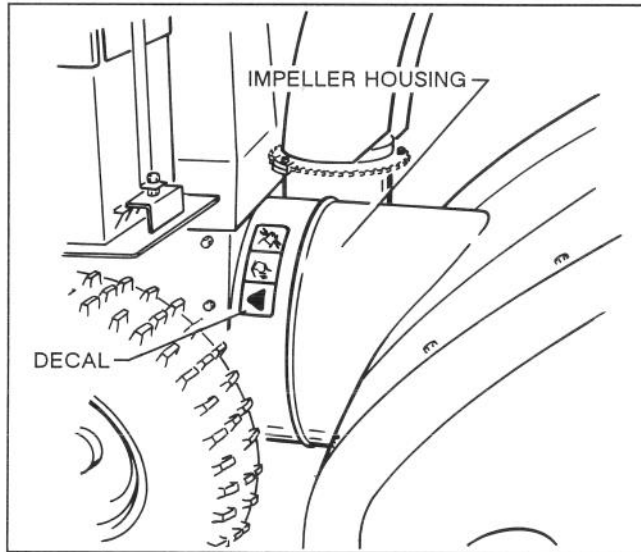

Figure 22
46. Install warning decal on impeller housing (Fig. 22).